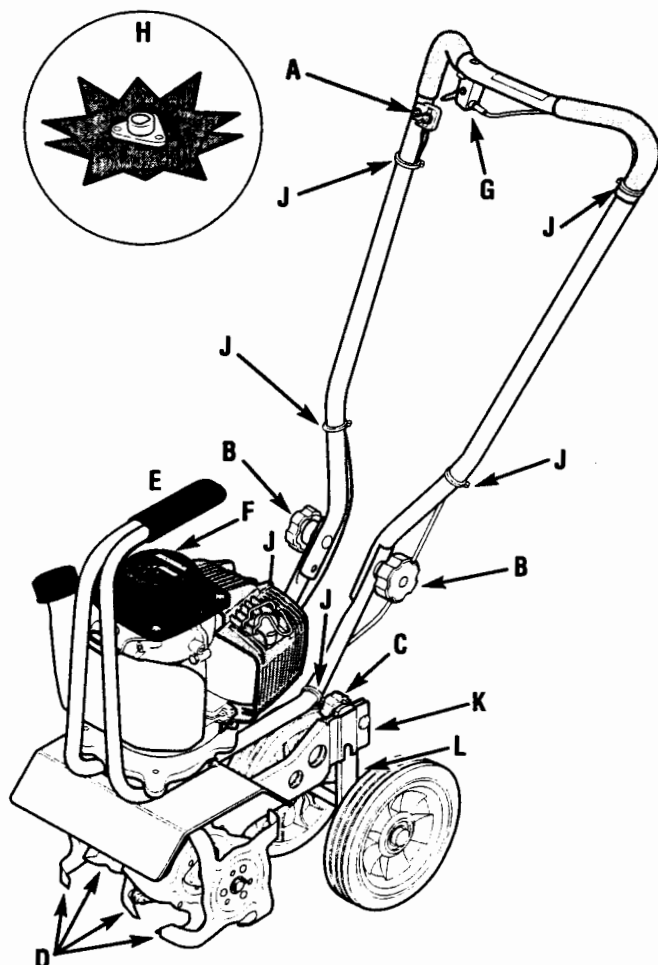

Figure 2: Features and controls.
Handlebar Height Adjustment Knob (B, Figure 2)
Tilling Depth Adjustment Knob (C, Figure 2)
Adjustable Tine Patterns (D, Figure 2)
Carrying Handle (E, Figure 2)
Edger Attachment (H, Figure 2)
Engine On/Off Switch (A, Figure 2)
Engine Recoil Start Rope (F, Figure 2)
Throttle/Tines Control Lever (G, Figure 2)
4. Check the six plastic cable ties (J, Figure 2). Be sure that cables and ties are positioned as shown. Cables must not be kinked or jammed in the handlebar.
To stop the engine, move the On/Off Switch (A, Figure 2) to the OFF position.
NOTE: Do not squeeze Engine Throttle/Tines Control Lever (G, Figure 2) when starting engine.
1. Move the On/Off Switch (A, Figure 2) to the ON position.